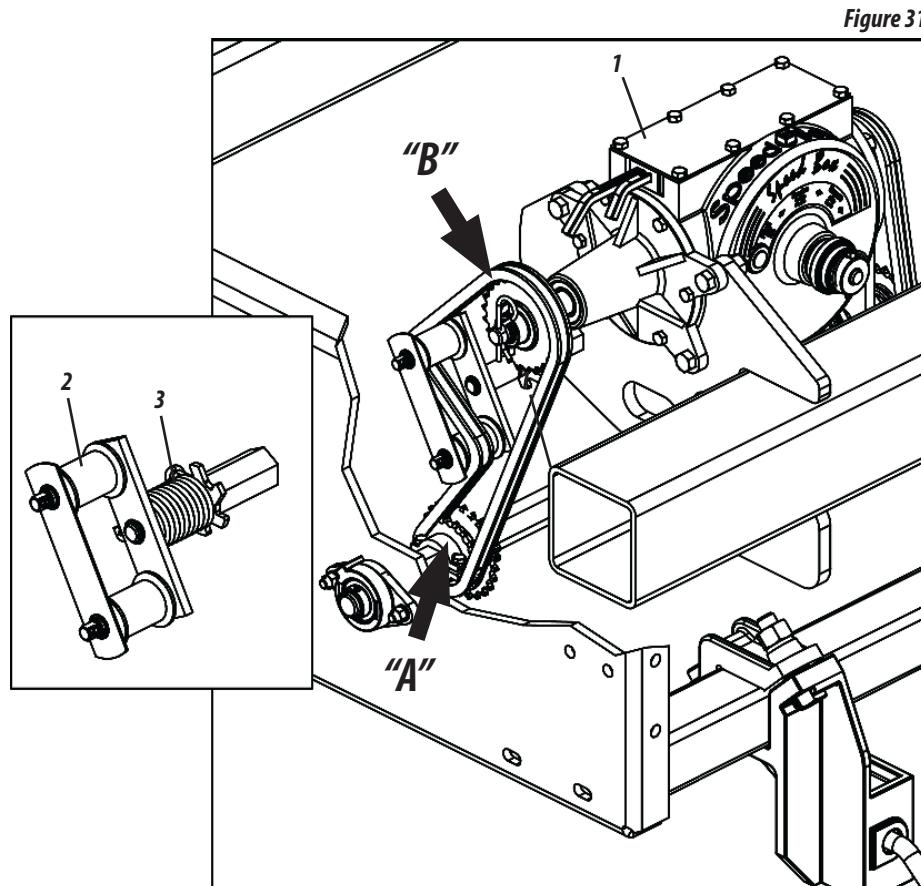

Figure 31
- 39 - The fertilizer adjustment is made by the Speed Box (1). To make further adjustments, reverse current in the motor "A" and moved "B" gear as shown in Figure 31.